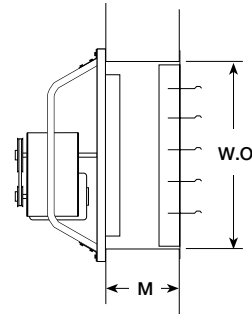

Figure 2 - Direct to Wall Installation
Figure 2 shows the recommended wall opening (W.O.) and the minimum distance (M) suggested between the fan and damper for direct to wall installations.